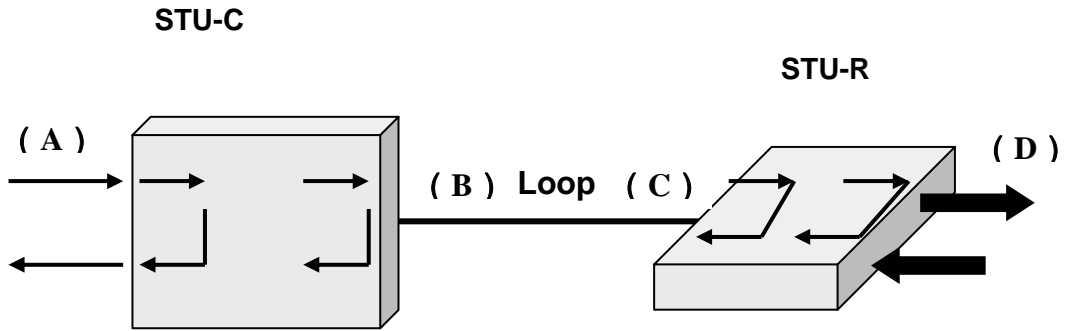

Figure 2.1 Near end Loopback
In this mode, The NLB capability is set up inside STU-C/STU-R as close as possible to the network side interfaces. The NLB is capable of control (activation and deactivation) by CID. The received signal is sent to the loop during the NLB is activated. For example, if Near End Loopback is activated at STU-C, the direction of Near End Loopback would be like (A) in figure 2.1.